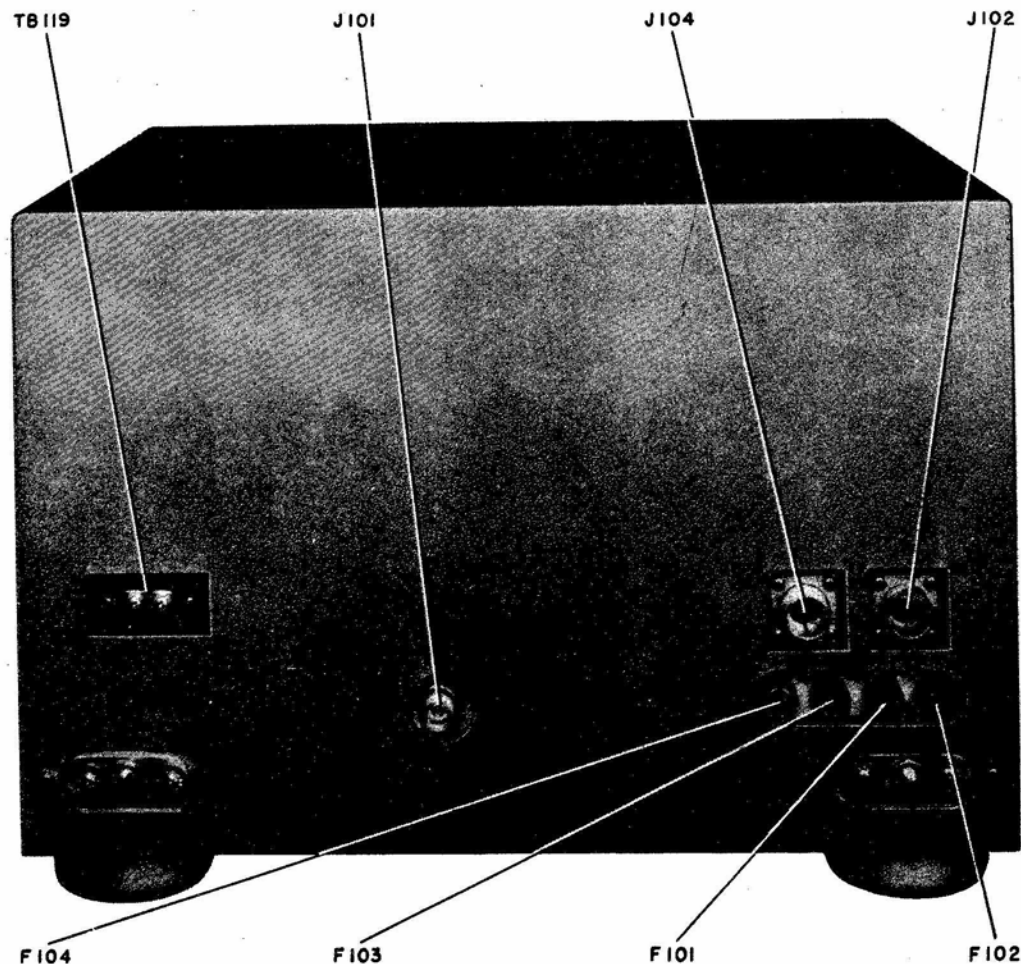

Figure 7-4. Component Locations, Rear of Chassis
b. CIRCUIT CONSTANTS.—The value of all circuit components is given in the Parts List, Table 8-4, and on the Schematic Diagram, Figure 7-13. Actual connections are shown on the Practical Wiring Diagram, Figure 7-14. Locations of components are shown on Figures 7-4, 7-5 and 7-6.